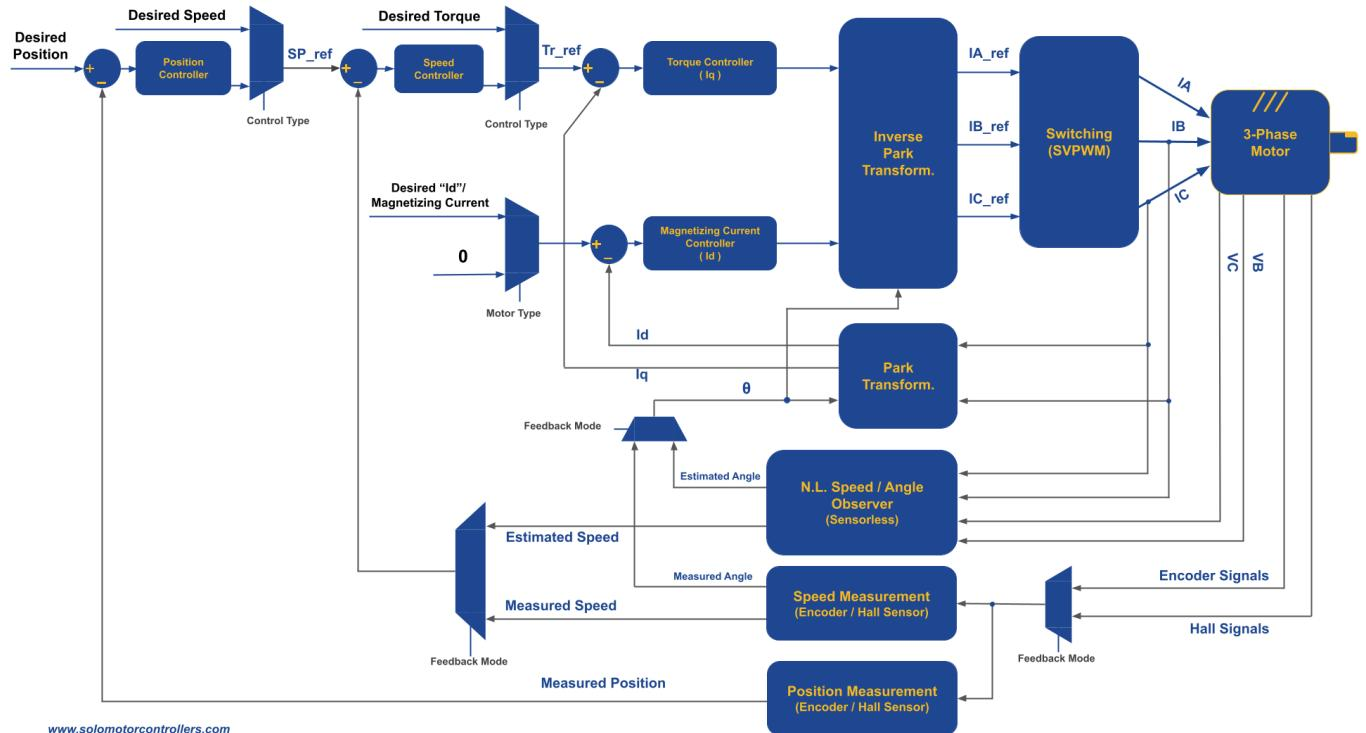
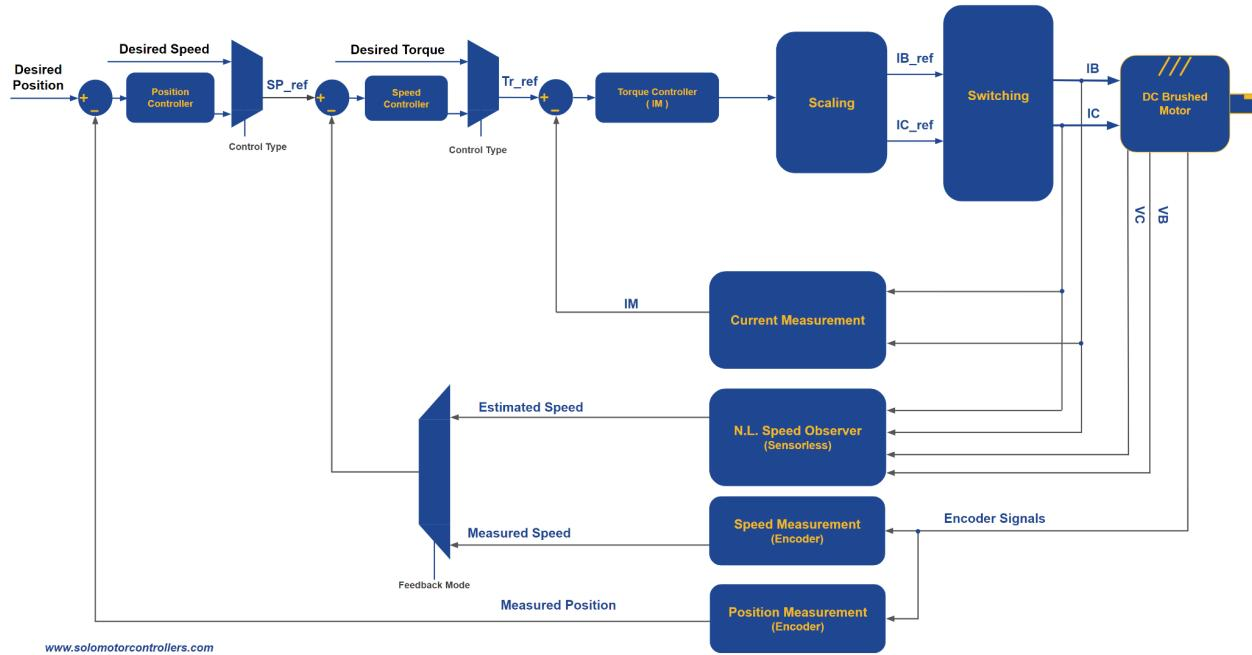

Figure 1 - FOC Control Architecture of SOLO MINI_v2 for 3-phase Motors
Figure 2 - Control Architecture of SOLO MINI_v2 for DC Brushed Motors
- All The sections are referred to in **Figure 2** below
In general, we can divide the whole control architecture of SOLO for two different types of Motors, the 3-phase motors that can be seen in Figure 1 and the Brushed DC motors that can be seen in Figure 2 below, as can be seen in these figures, the main foundation of the architecture of motor controlling in SOLO is based on four fundamental controllers:
As can be seen in Figure 1, to control any of the Torque, Speed and even position of a 3-phase motor in FOC fashion, there is a need to have at least 4 different feedbacks:
As can be seen in Figure 2, the main architecture of Motor Controlling for DC brushed motors in SOLO follows a very similar pattern to 3-phase Motors Controlling with FOC, however the architecture is generally simple with only one cascade loop of Torque, Speed and Position. Similar to 3-phase motors, for DC brushed Motors, SOLO offers both Sensor-less and Sensor-based controls as well as Servo-Driving in case an Incremental Encoder is attached to the Motor, so the whole control strategy and tunings are identical to the 3-phase motors with minor differences on the processing methods.